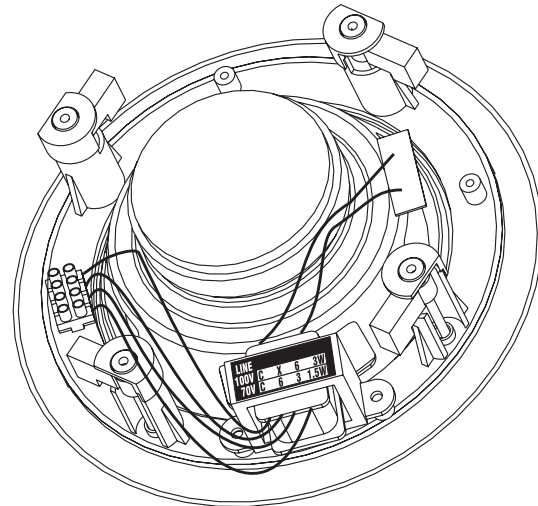

Fig. 10 – CL-5T; input power selection terminals
Step 3 – Terminal connection: the speakers terminals are spring loaded. Watch the colour coding for polarity. For connection to transformer models, you will need to select the required input power and connect to the appropriate terminals (see Fig. 10).